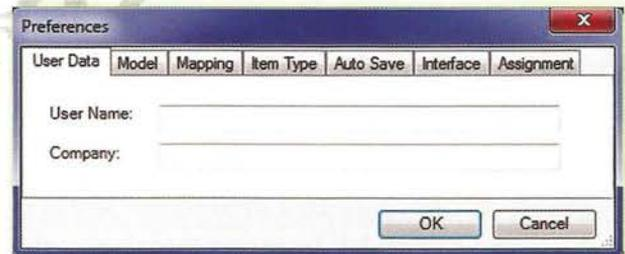

Fig 12: Preferences
2. On the User Data tab, enter your name and company name (Figure 12).